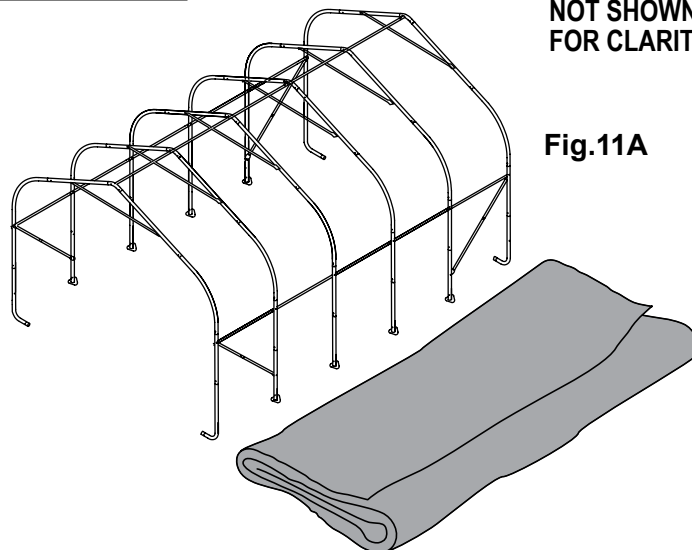

Fig.11A
A. Lay the cover on the ground next to the frame with the inside of the cover (the side with the pipe pockets) facing down and the webbing on the front and rear of the corner of the building. Position the cover so that it is centered to the frame, front to back. Fig. 11A